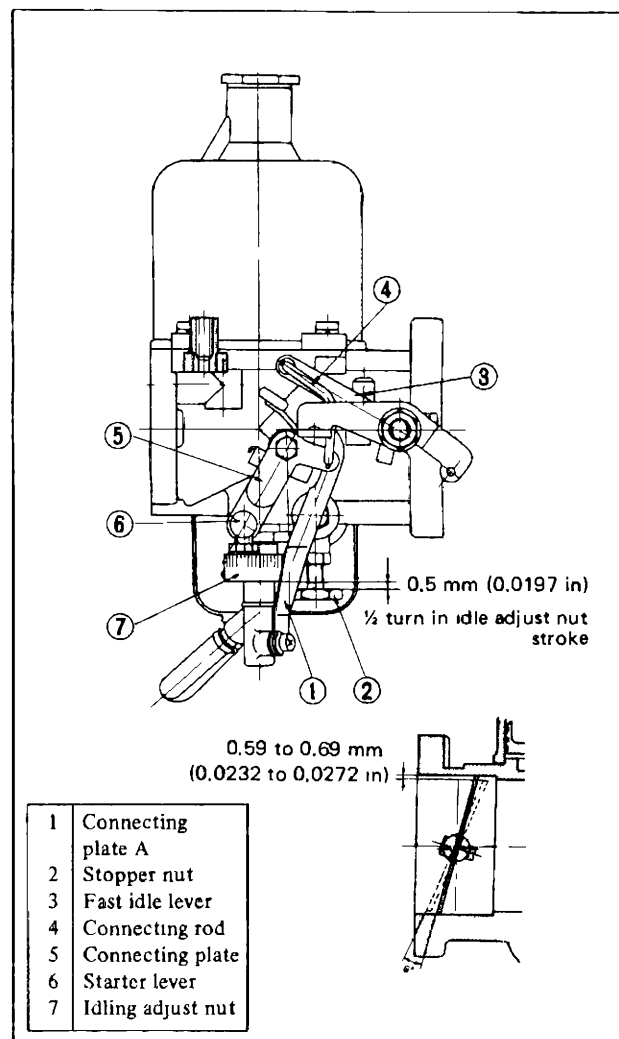

Fig. EF-48 Adjustment of starting interlock opening
For the adjustment of starting interlock opening, bend the connecting rod as shown in Figure EF-48 with an appropriate tool such as radio pinchers to change its length.
7. Then apply a few drops of light oil to the suction piston rod, and reassemble. Under no circumstances should oil be applied to the inside the suction chamber or to in Figure EF-48 with an appropriate tool such as radio pinchers to change its length. improper or defective operation.